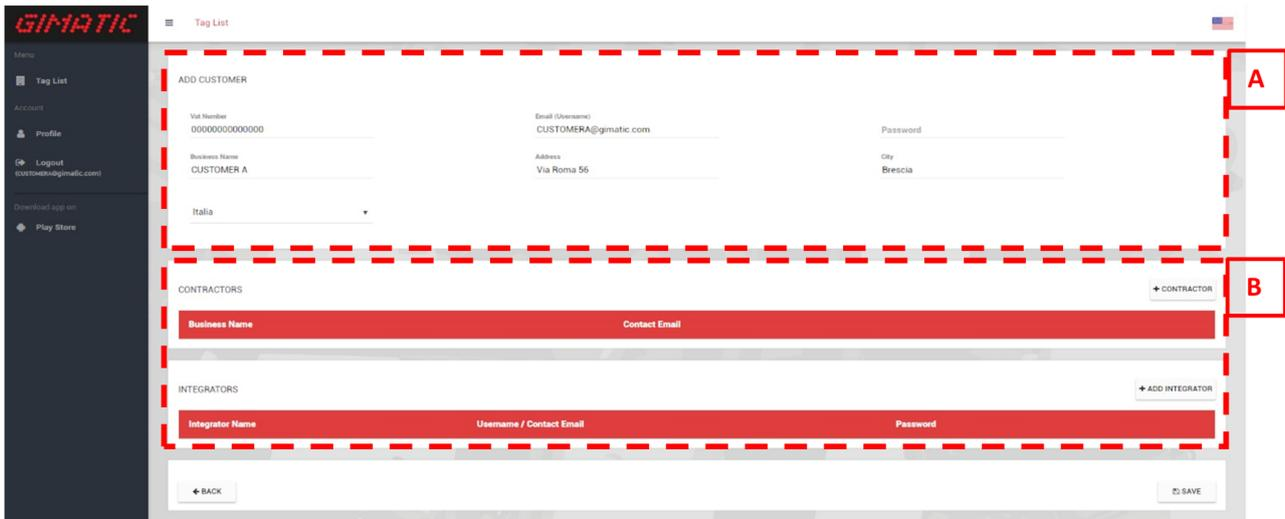
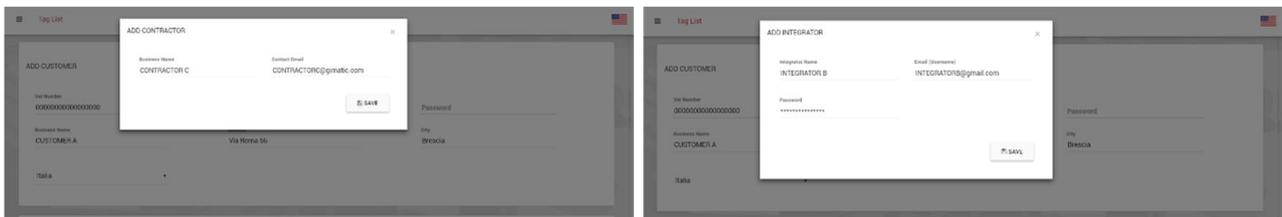

Figure 37 –Customer’s main page: customer’s details
Figure 38 - Add a contractor
- A: the map shows where the TAGs added by the CUSTOMER A are localized. Clicking on the pen , near the customer's name, it will open the window showed in *Figure 37*, and there is the possibility to add integrators or contractors, as showed in the chapter 7.3. If the basket  is clicked on, the customer profile will be deleted. In the upper right of this section, there is the possibility to export the XLS file with all the information related to CUSTOMER A.
To enter a contractor or an integrator, as explained before, shall be clicked on the pen near the customer's name, the picture below (*Figure 37*) shows the window that will appear. In the section A there are details concerning the CUSTOMER A. The section B underline the list of contractors and integrators already added and there is the option to assign a contractor or an integrator to CUSTOMER A. Trying to add a contractor, a form like *Figure 38* will be displayed and to complete the operation must enter the contractor's name and email. The contractor can't see the TAG details assigned to himself, for these reasons it doesn't need an account. An integrator can check all the details of his TAGs. Therefore, the customer must enter email and password during the insertion of an integrator, like in *Figure 38*. The same credentials will be used by the integrator to perform the log in. Then the integrator will receive an email containing a link for the activation of the account (later the integrator can eventually change his username and password).